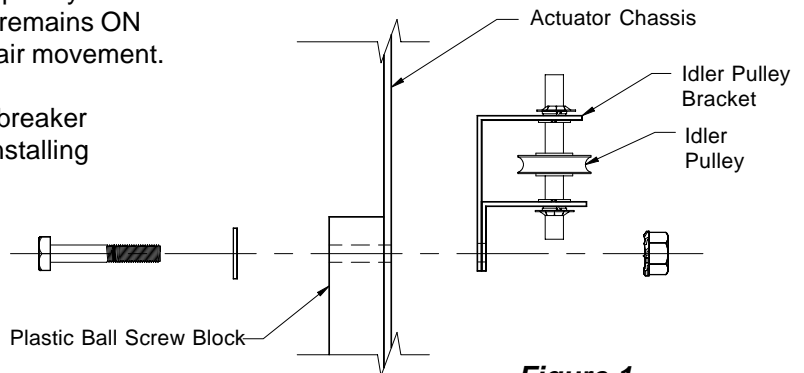

Figure 1
- 3) Install idler pulley bracket assembly using the pair of mounting bolts passing through plastic ball screw block. **See Figure 1.**